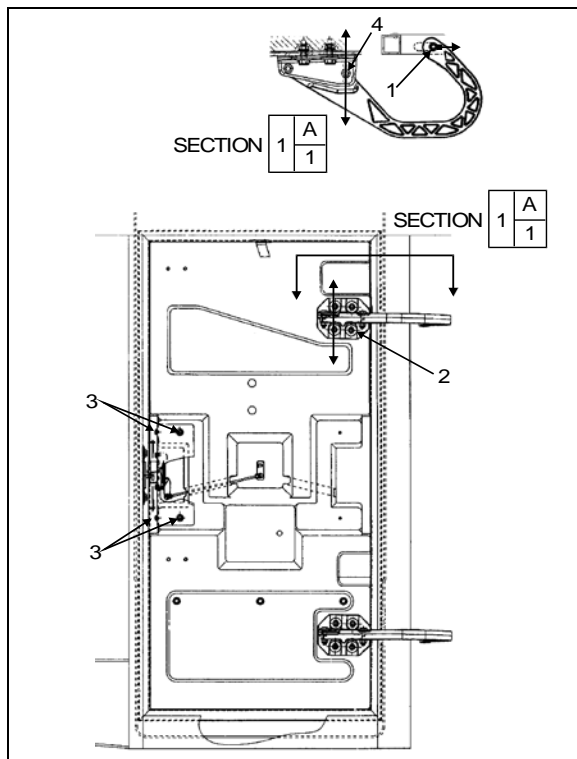

FIGURE 85: MAIN POWER COMP. DOOR
1. Loosen nut (1, Figure 85).
3. Tighten nut (1, Figure 85).
4. Loosen nut (4, Figure 85).
7. Loosen screws (2, Figure 85). Screws allow the door to be shifted "UP or DOWN".